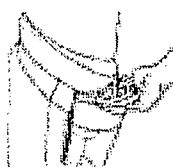

Figure 16c
6. Push the bin assembly towards the cleaner and insert your fingers into the cleaner opening provided. (See Figure 16c.)